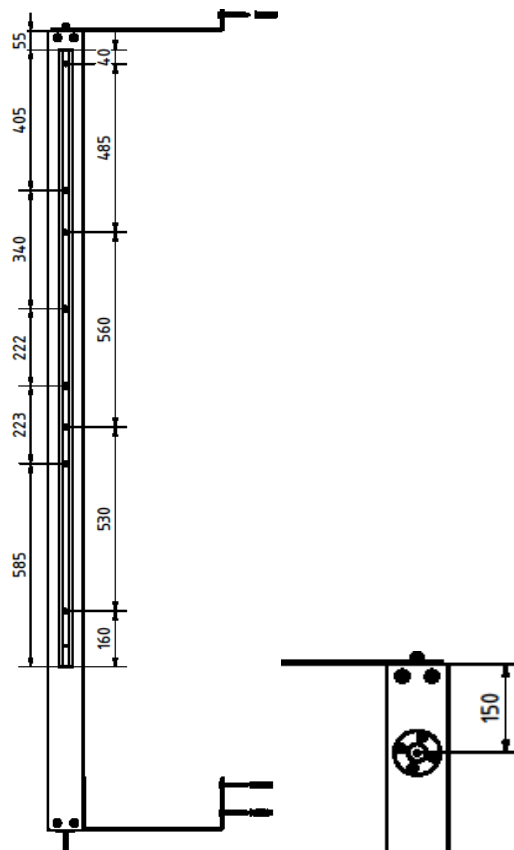

Figure 5: Drilling dimensions for the rails and sliders
Your next task is to tackle the rails (17). Start by holding the rail against the side of the frame facing the tilting section; the rail should be attached 55 mm below the frame's top edge. Make sure the rail's closed end points downwards. Mark the holes for the threaded inserts (5) as shown in figure 5, then drill the four 11 mm holes required (per rail) and fit the inserts.